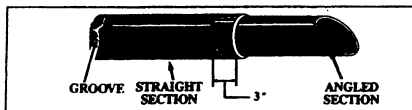
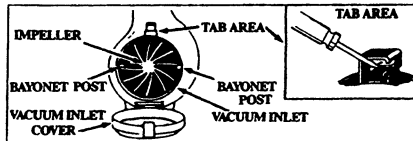
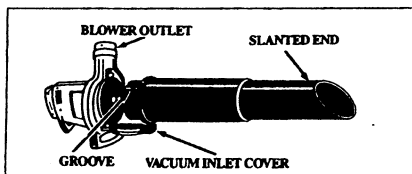

Figure 17
Figure 18
Figure 19
3. Set Unit on a flat surface. Release the Vacuum Inlet Cover by very carefully inserting a flathead screwdriver into the tab area as far as it will go. Figure 18. Twist the tip of the screwdriver gently and pull open the Cover by the tab with your other hand.
4. Hold open the Vacuum Inlet Cover (Figure 18) and align the grooves on the Upper Vacuum Tube (Figure 19) with the Bayonet Posts inside the Vacuum Inlet.
6. Make sure the angled end of the Lower Vacuum Tube is aligned with the Blower Outlet as shown in Figure 19. Assemble the vacuum tubes. Firmly push the vacuum tubes together until the Lower Vacuum Tube bottoms out inside the flared end of the Upper Vacuum Tube (about 3 inches). Figure 17.